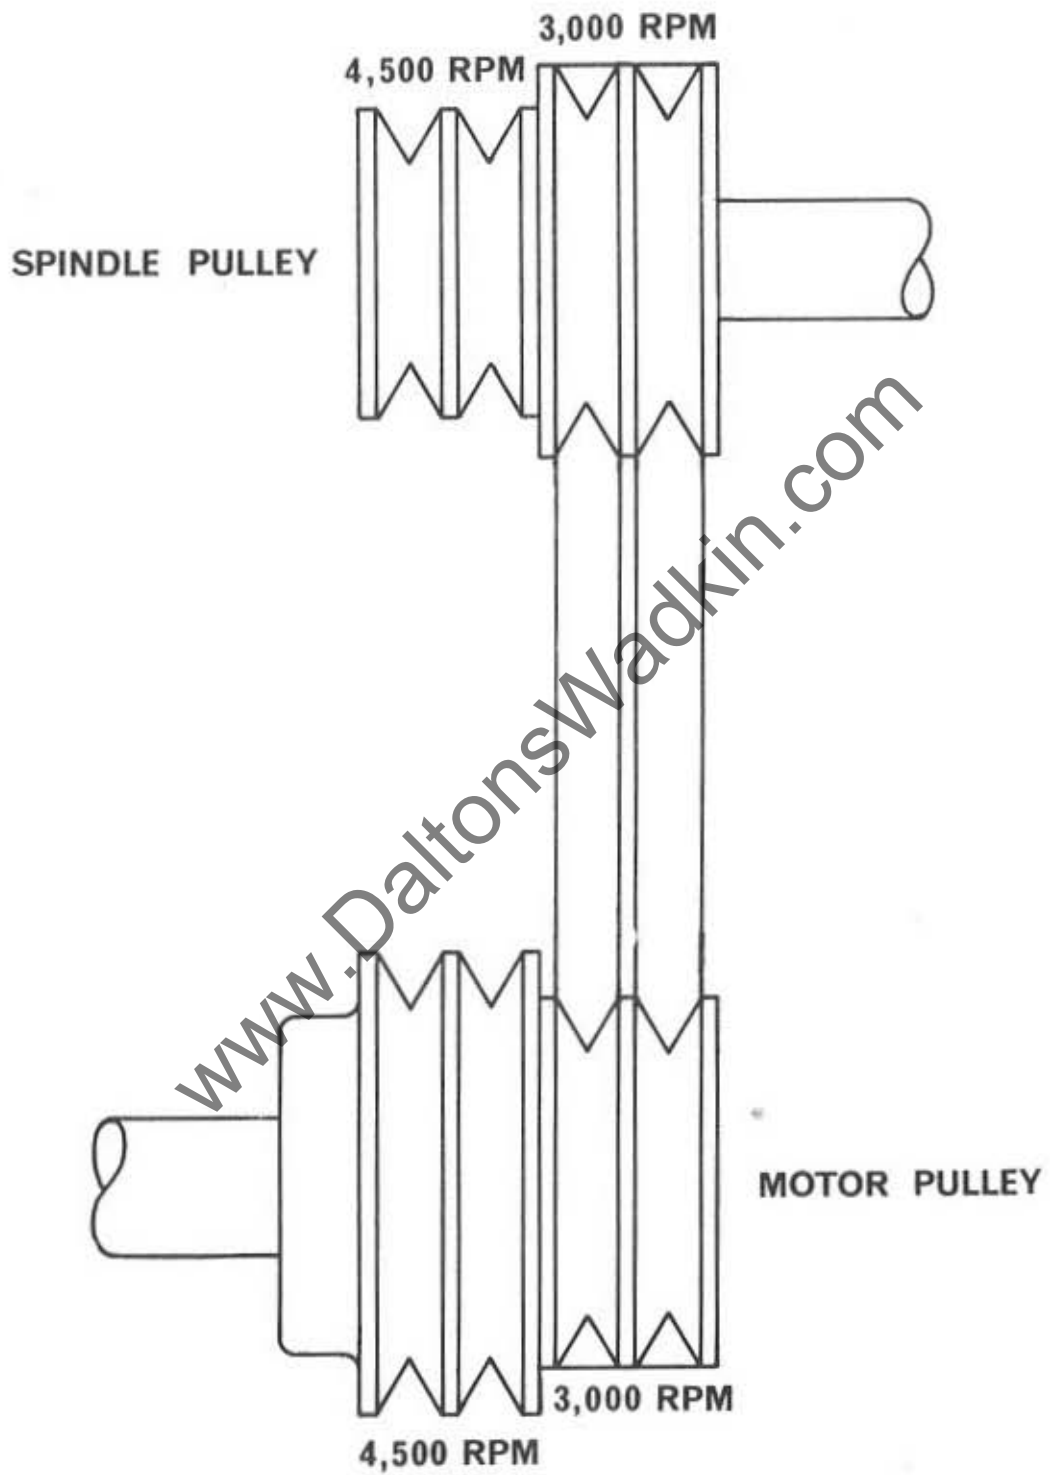

FIG 28
4. Change belts "C" to required pulley on spindle pulley and motor pulley. See pulley diagram FIG 28 for required spindle speed.